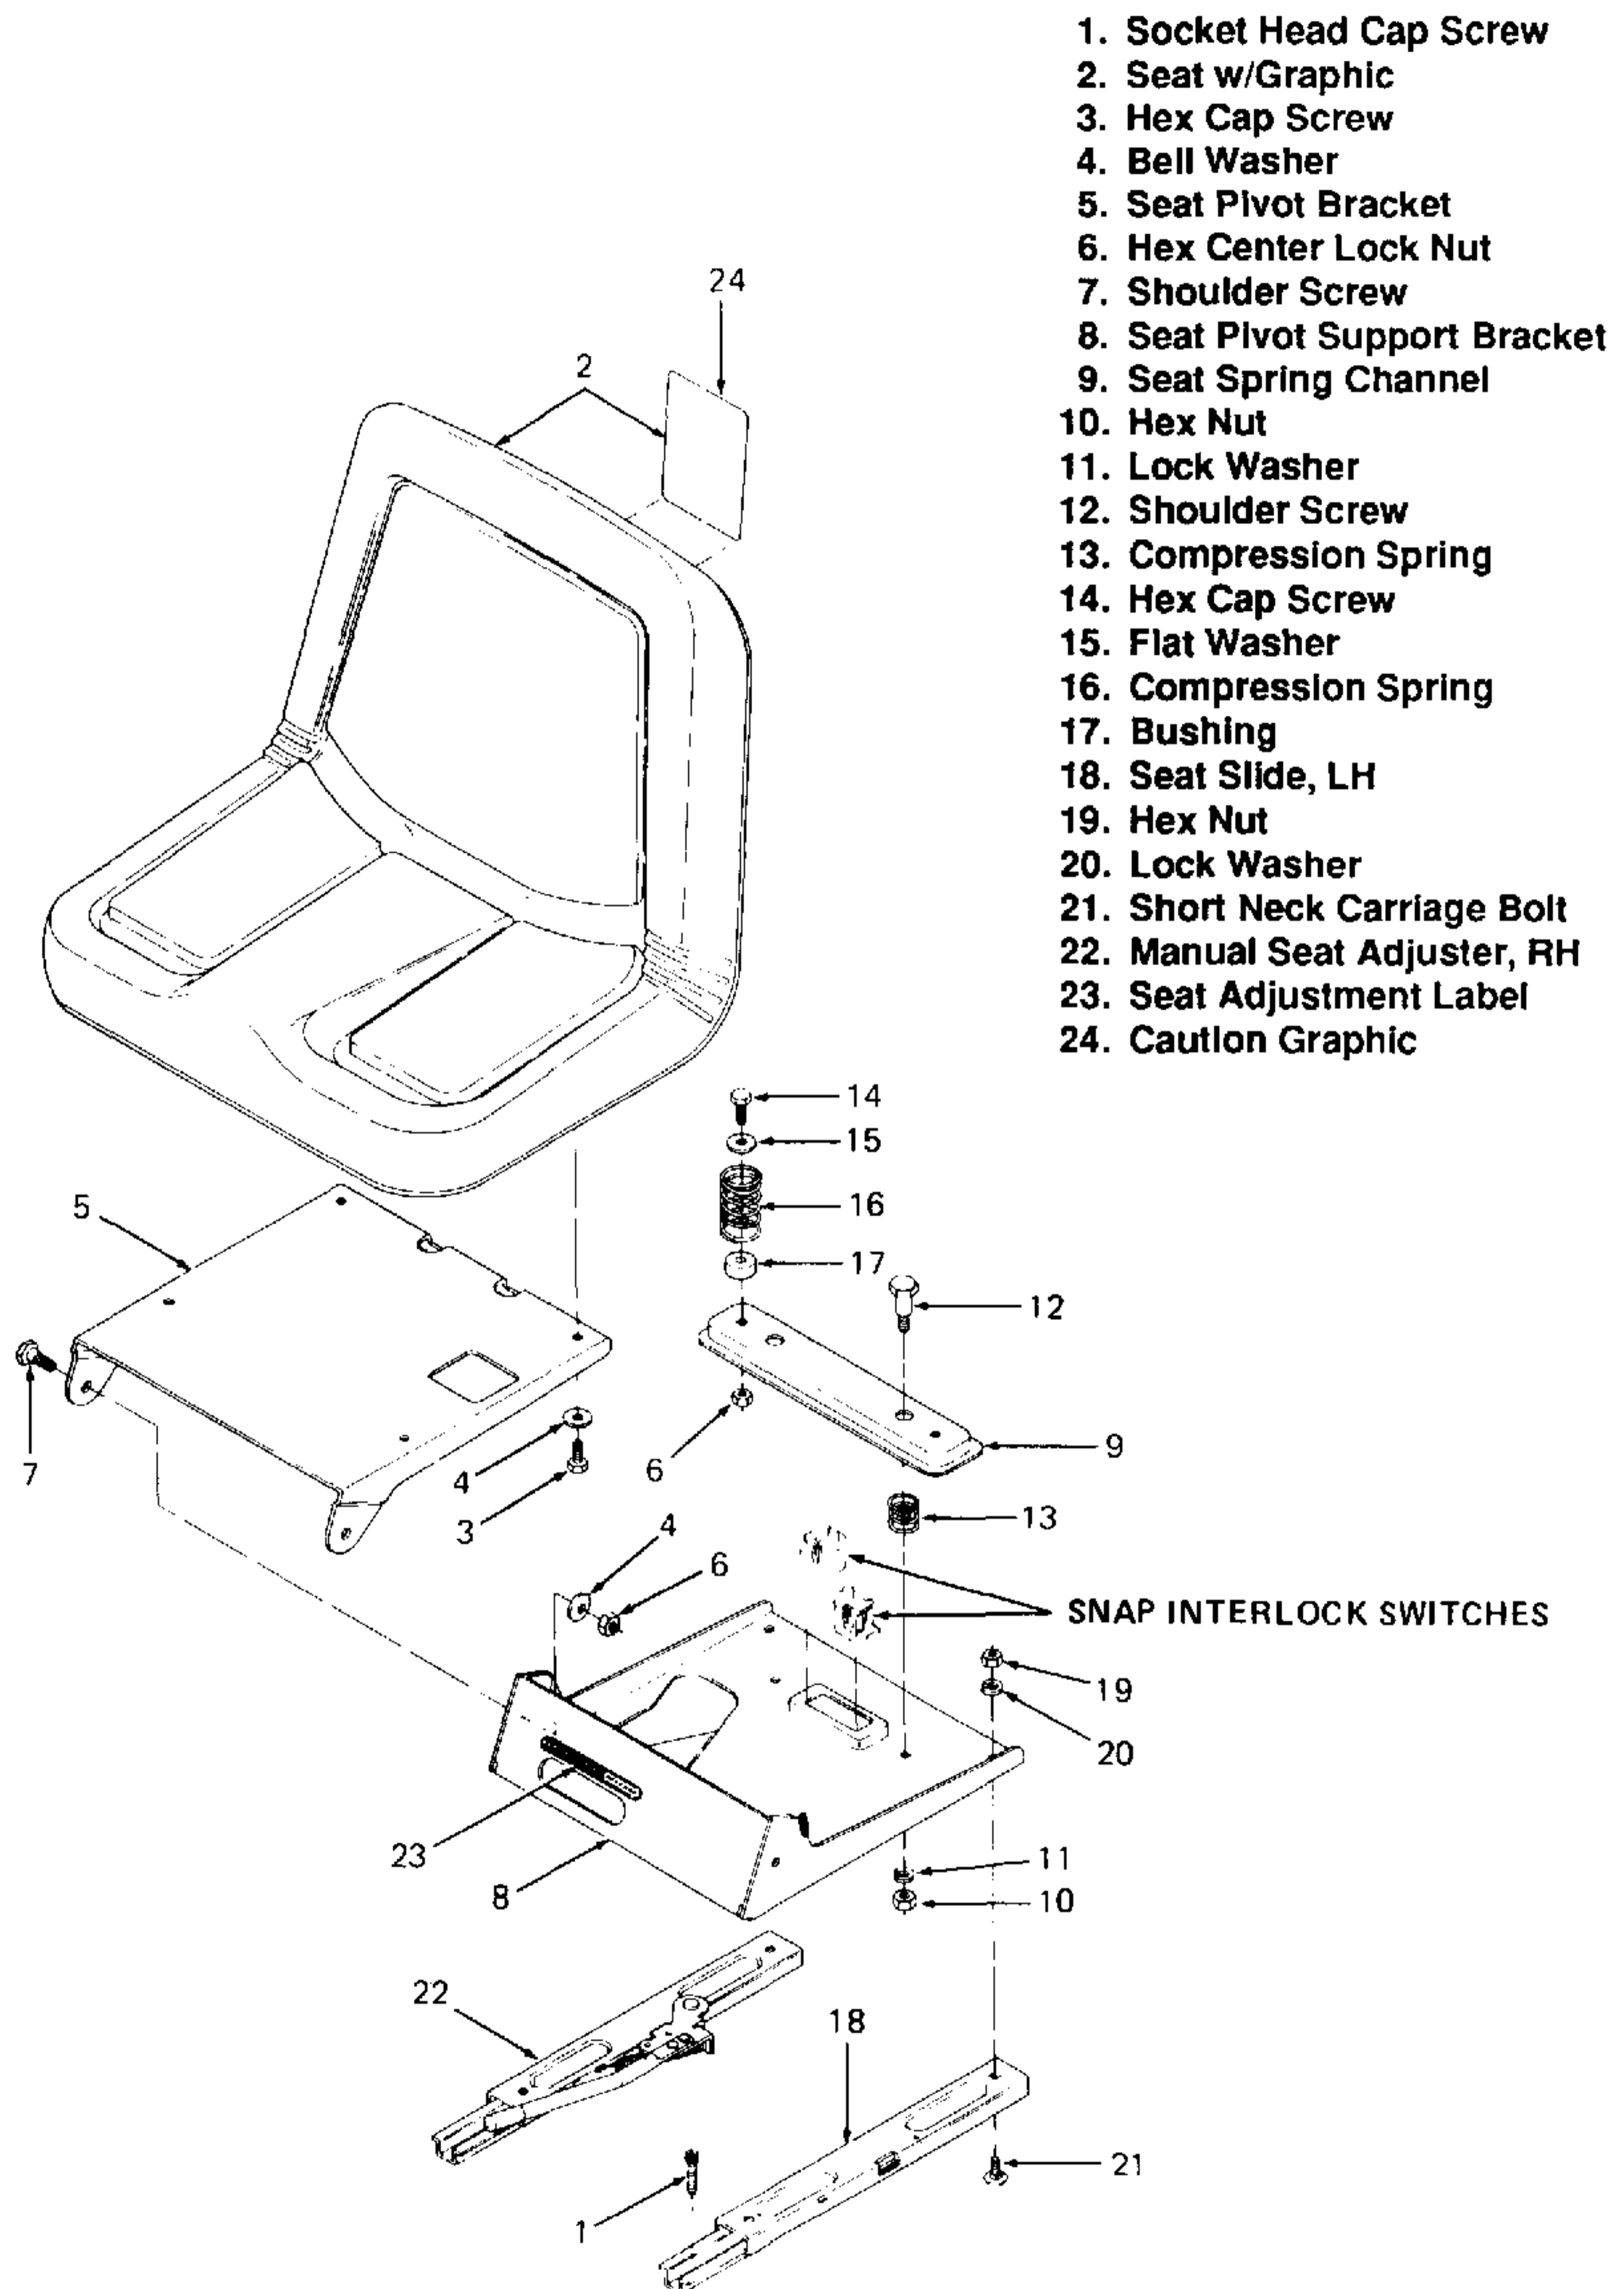

Figure 5-30. Seat and Track Assembly (Models 1340, 1541, 1782, 1860, 1862, 2082 and 2182).
- a. Slide seat rearward and remove two socket head cap screws (1, Figure 5-30), self-locking nuts and flat washers.
- b. Slide seat forward and remove two socket head cap screws (1).